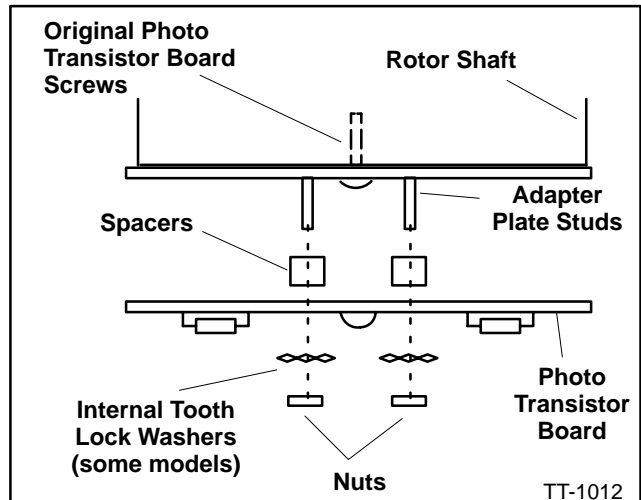

Figure 12. Photo Transistor Board Mounting
15. Attach photo transistor board (B-292902) and two spacers (X-712-19) to adapter plate studs using two washers (X-22-9) and nuts (X-70-11). Torque to 10 in. lbs. (1.1 Nm) maximum. See Figure 12 for component sequence.